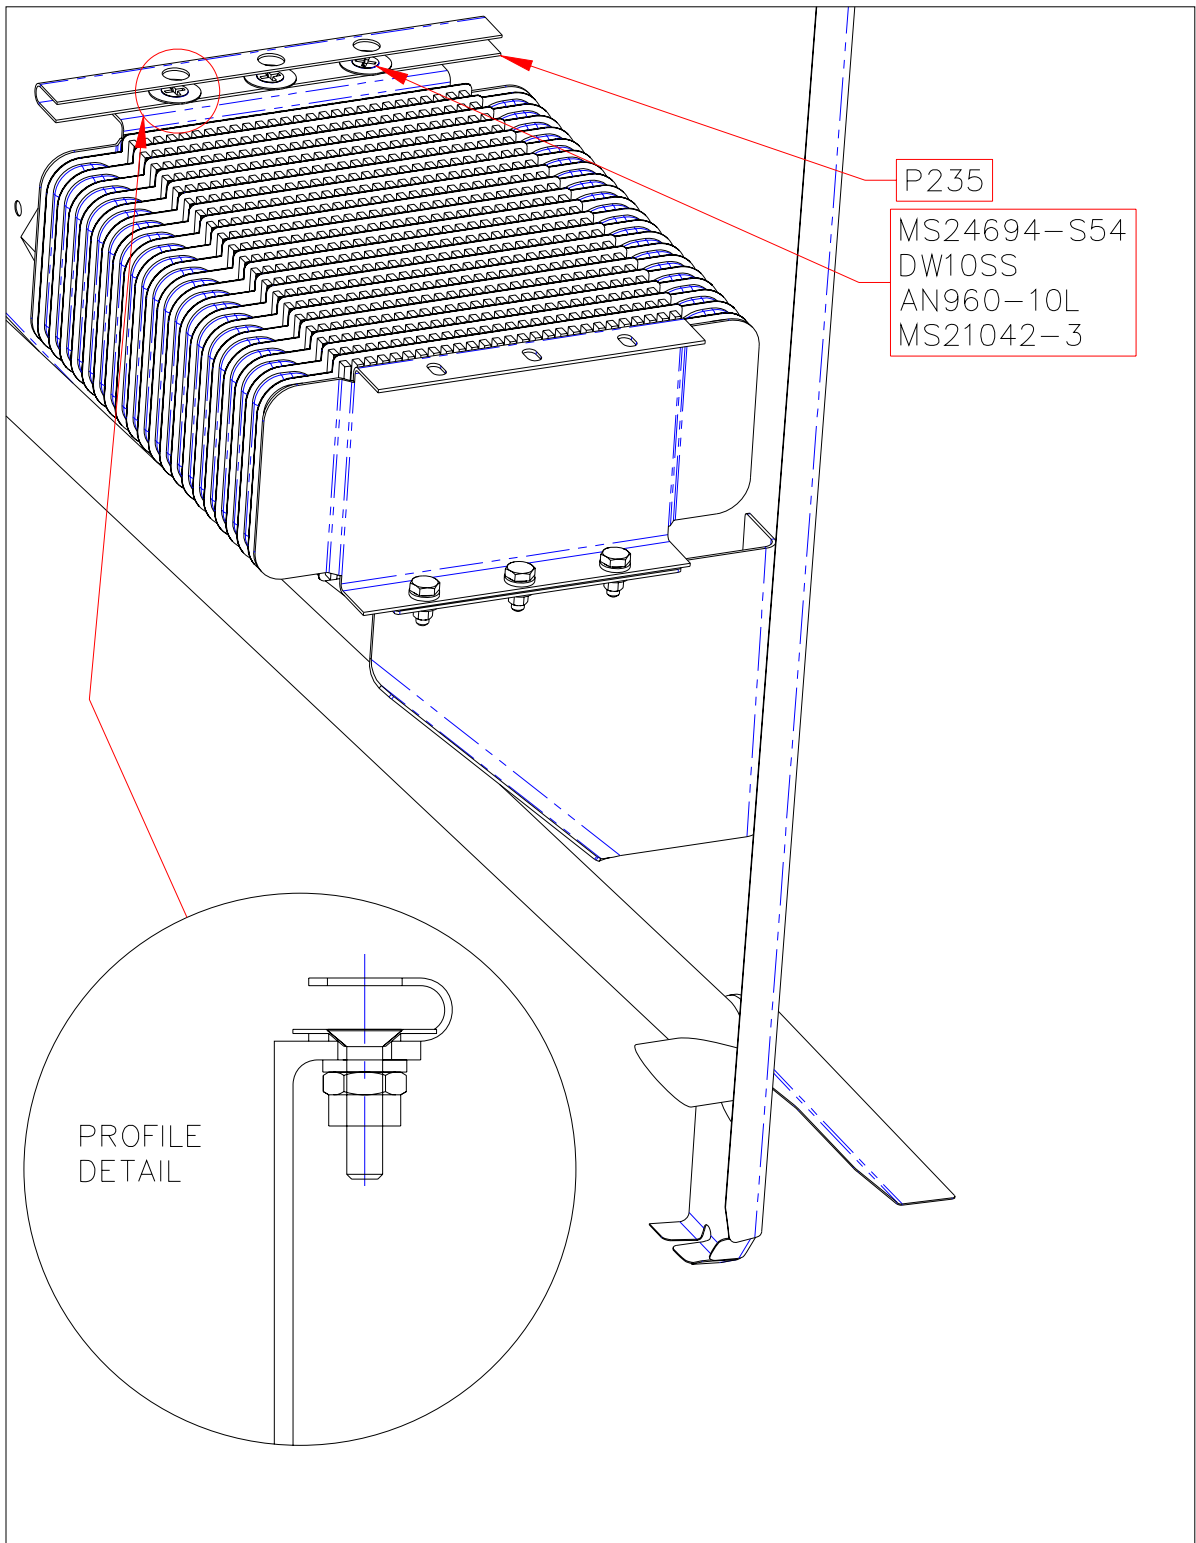

FIGURE 8 P235 INSTALLATION
12. Install P235 Clip per Figure 8.